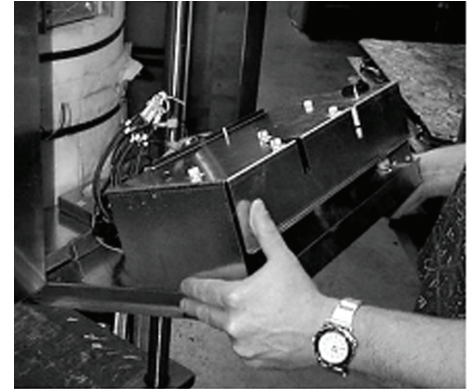

Figure 15
- B. Mount hinge bracket of escutcheon/relay assembly onto lip of fryer's bottom panel (see figure 15).